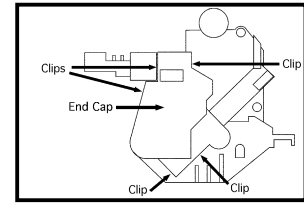

Figure 1
1. Remove end cap from front of cartridge (5 clips - Fig. 1).
10. Reassemble cartridge halves in reverse order (using Figs. 1, 2, & 3 as guides).